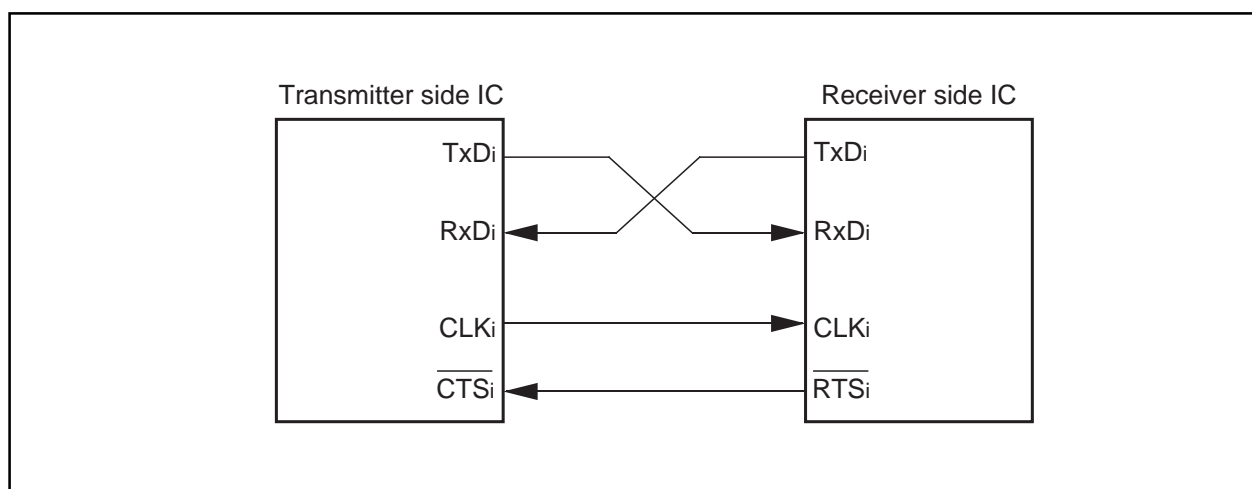

Figure 2.4.14. Example of wiring
- (1) With an external clock selected, and choosing the $\overline{\text{RTS}}$ function, the output level of the $\overline{\text{RTSi}}$ pin goes to "L" when the data-receivable status becomes ready, which informs the transmission side that the reception has become ready. The output level of the $\overline{\text{RTSi}}$ pin goes to "H" when reception starts. So if the $\overline{\text{RTSi}}$ pin is connected to the $\overline{\text{CTS}}$ pin on the transmission side, the circuit can transmission and reception data with consistent timing. With the internal clock, the $\overline{\text{RTS}}$ function has no effect. Figure 2.4.14 shows an example of wiring.